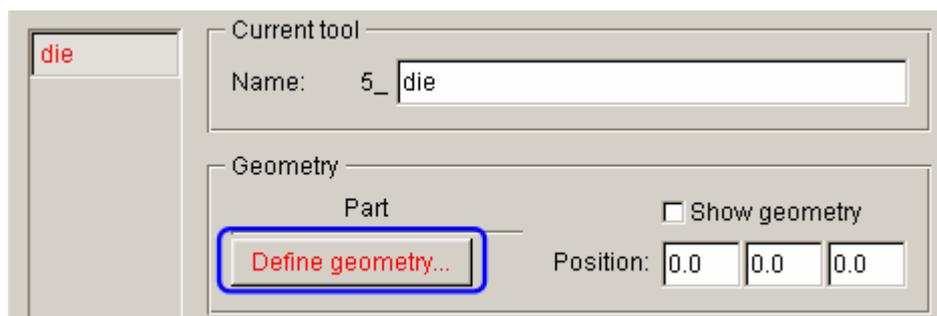

Figure 4.14 Die definition
4. Click **Define geometry...** button to assign a part as die. See Figure 4.14.